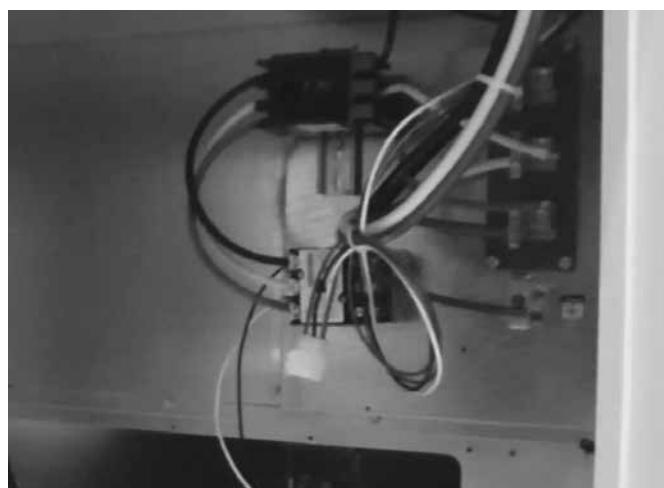

Figure 6. Single Circuit Breaker and Contactor
7. Mount element control contactor (1 or 2 depending on kit) to the control panel with two screws. Make sure L1/L2/L3 wiring point to the left. See Figure 6.